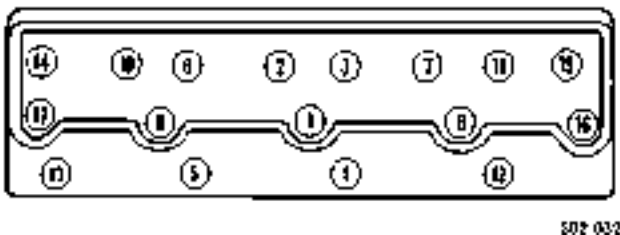

Figure 2-42: Cylinder Head Bolt Tightening Sequence
- b. Install and tighten bolts to initial torque of 20 lb-ft (27 N•m). Follow tightening sequence (Figure 2-42).
- c. Tighten bolts to 50 lb-ft (68 N•m) torque evenly and in sequence shown (Figure 2-42).
- b. Install and tighten bolts to initial torque 20 lb-ft (27 N•m). Follow tightening sequence shown (Figure 2-42).